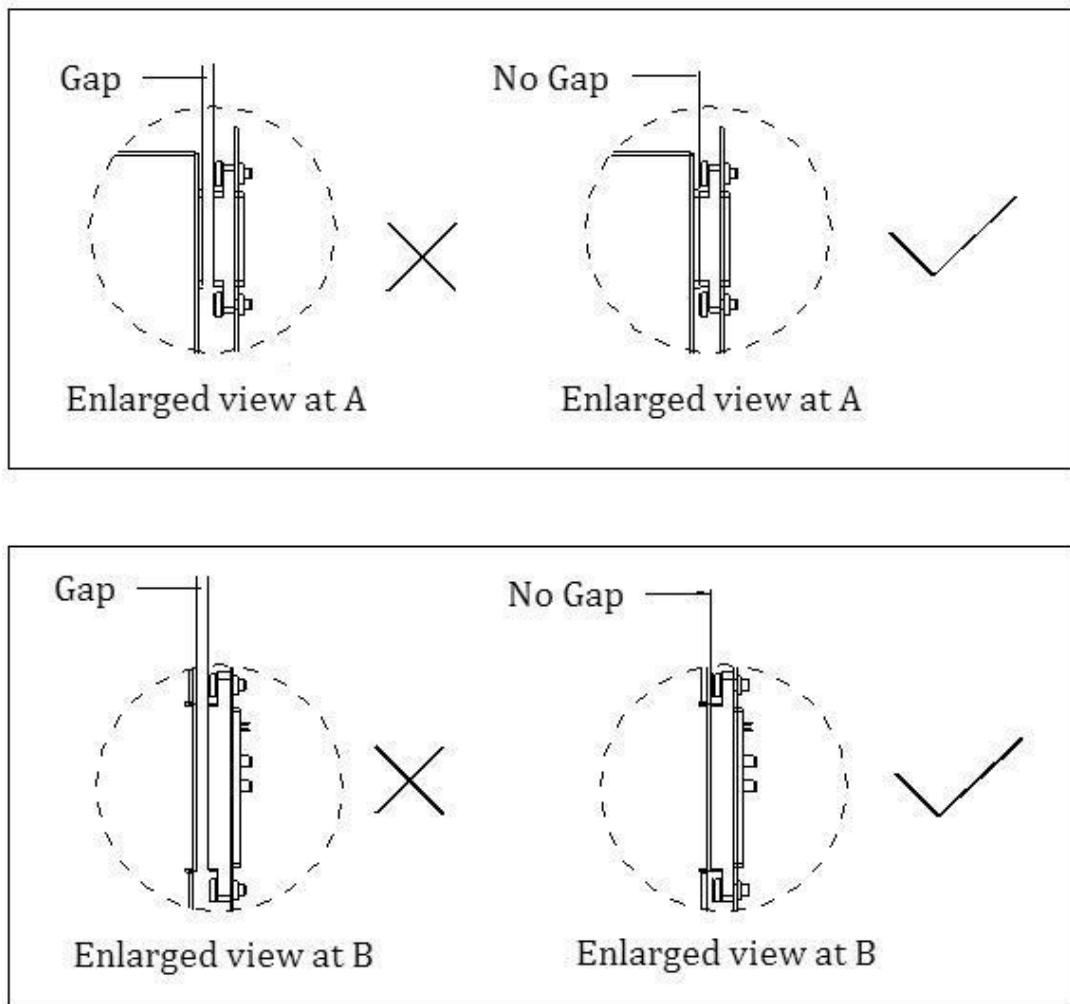

Figure 2-7 Assembly instruction diagram of module terminal and system terminals
2)After the module is assembled on the pile, the module terminals are required to be in close contact with the system terminals, and there should be no gaps. Ensure that the system terminal and the module terminal plug-in contact are reliable, as shown in Figure 2-7.